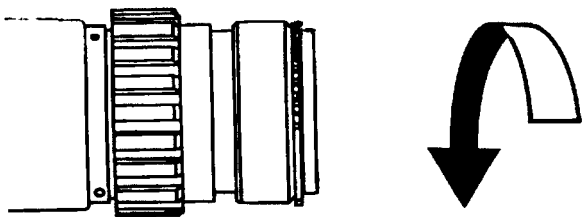

Figure 2-23. Tightening the LIF.
- (5) Tighten the LIF hand tight (see Figure 2-23).